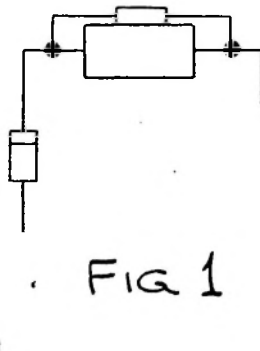

FIG 1
1. Remove Power Cable from Power Supply and Transport. Open MALE END. Clip out the component assemblies. (There are two assemblies similar to Fig. 1 on the reverse side of this page.) Reassemble the plug.